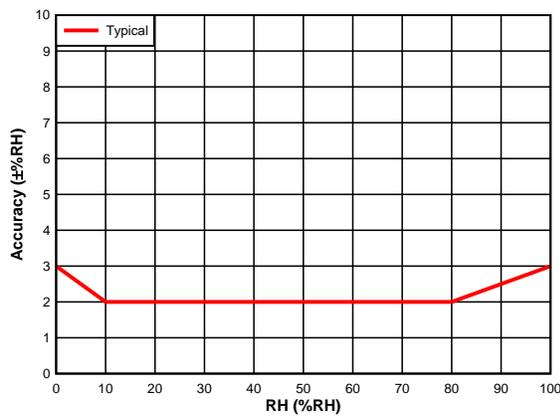

Figure 2. RH Accuracy vs. RH
(1) See Figure 2
| RH_{ACC} | Accuracy | Refer to Figure 2 in Typical Characteristics section. | | ± 2 | | %RH |